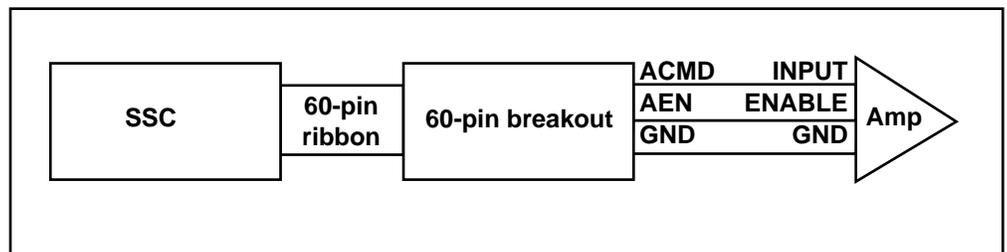

Figure 4.6 - Connecting AEN to an amplifier
The SSC also provides an amplifier enable signal (AEN). This signal changes under the following conditions: the watchdog timer activates, the motor-off command (MO) is given, or the Enable Off-On-Error command (OE1) is given and the position error exceeds the error limit. As shown in Figure 4.6, AEN can be used to disable the amplifier for these conditions.